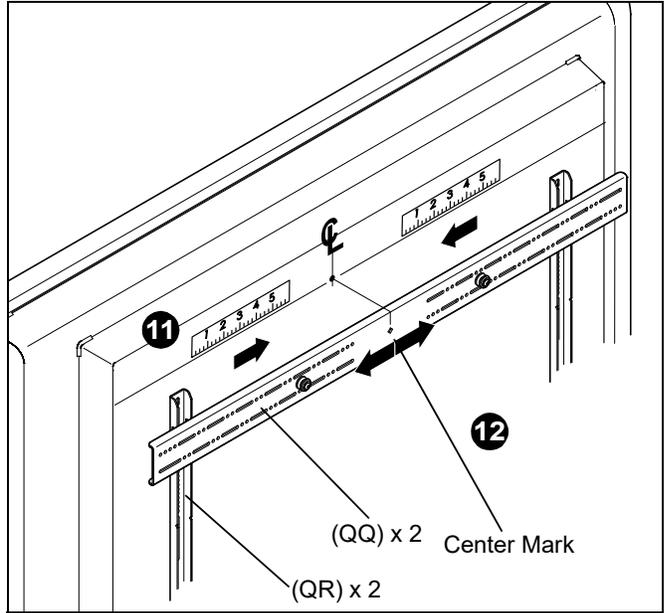
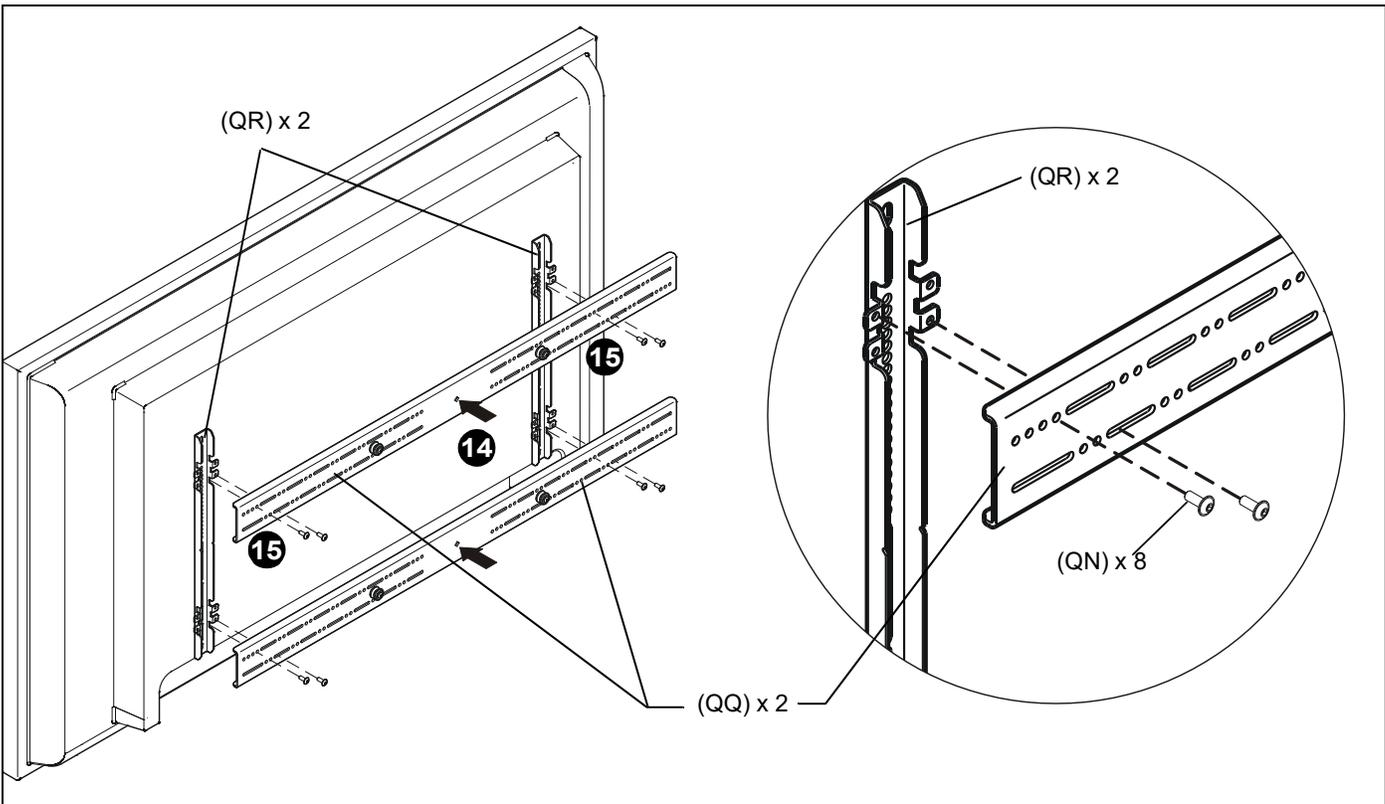

Figure 22
Figure 23
11. Determine and mark the horizontal center position between the Left and Right *TOP* mounting holes in display. (See Figure 22)
12. Determine and mark the horizontal center position between the Left and Right *BOTTOM* mounting holes in display. (See Figure 22)
13. Orient upper horizontal mounting bracket (QQ) so that flanges are facing towards display and resting in recessed area of left and right vertical mounting brackets (QR). (See Figure 22)
14. Adjust Upper horizontal mounting bracket (QQ) position until center diamond in horizontal mounting bracket (QU) aligns with mark made in Step 9, and mounting holes and slots in horizontal mounting bracket (QQ) are aligned with threaded holes in mounting tabs of left and right vertical mounting brackets (QR). (See Figure 22) and (See Figure 23)
15. Use 1/8" hex key (QP) to secure upper horizontal mounting bracket (QQ) to left and right vertical mounting brackets (QR) using four button head flanged screws (QN). (See Figure 23)
16. Repeat Steps 12 through 15 for lower horizontal mounting bracket (QQ).
IMPORTANT ! : The orientation of, and mounting holes used, when installing the lower horizontal mounting bracket must be the same as the upper horizontal mounting bracket. Vertically align upper and lower brackets by aligning holes or end of slots. (See Figure 23)
IMPORTANT ! : Whenever possible install mounting screws diagonally as shown in detail in Figure 23 below.